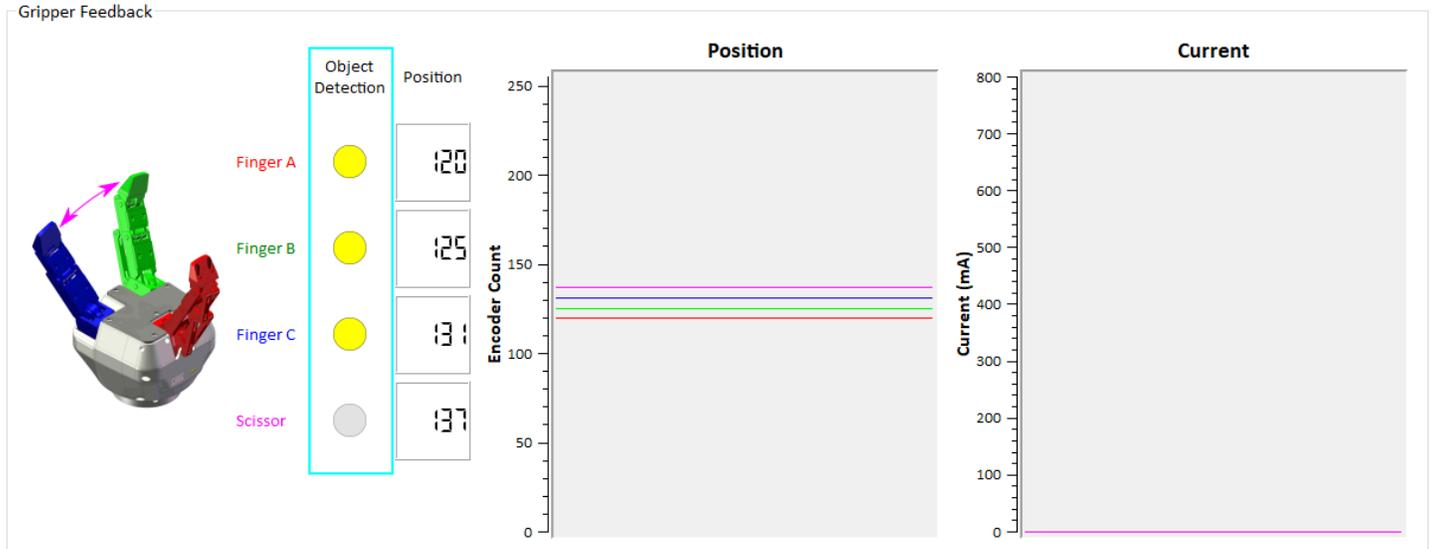

Fig. 5-4: Positive object detection is registered when the object detection dot turns yellow.
- Object Detection:** If the Gripper detects a contact with an object when closing, the "Object Detection" display turns yellow on the corresponding finger (see Fig. 5-4:). Object detections are displayed independently for each of the three fingers and the scissor axis.